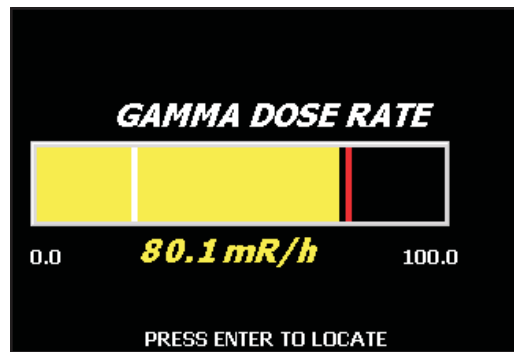

Figure 12 Simple Dose Display
- Simple – Displays the current Gamma Dose Rate as a bargraph (Figure 12).